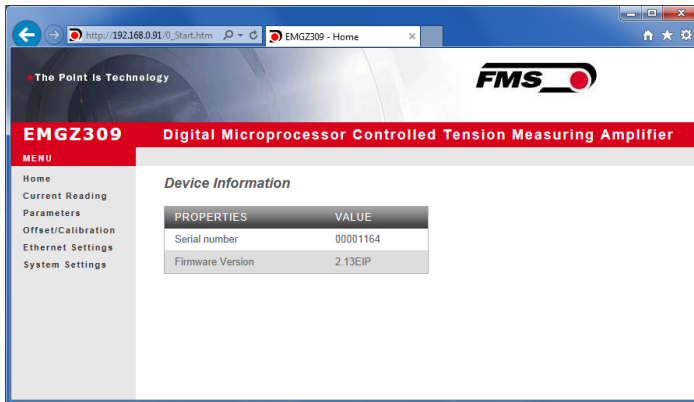

Fig. 24: Home Page with Serial number and device information E309_Home-EIP
Once the amplifier was integrated in the network you can address the device e.g. with <http://192.168.0.0901>. After establishing the link, screen Fig. 24 will open up.
2. The default IP address for the EMGZ321 is **192.168.000.090** as long as it was not changed over the operating penal. Enter the IP address e.g. with <http://192.168.000.090> in the address bar and hit the Enter key. The screen "Device information" **Fig.24** will open up.